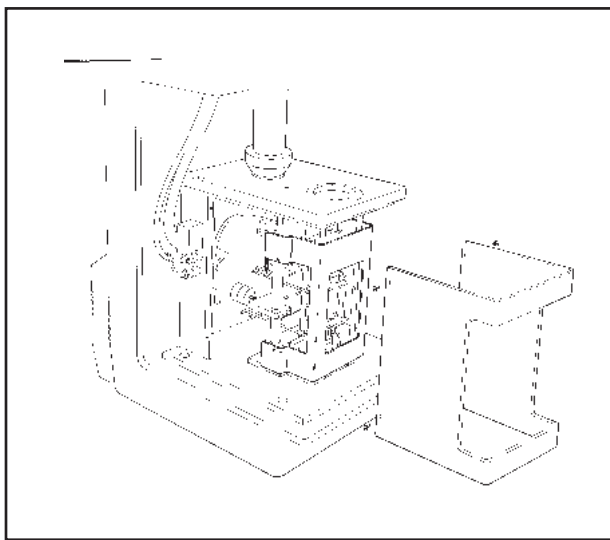

Figure 2.4
9. Slide the balance enclosure out and remove (see Figure 2.4).